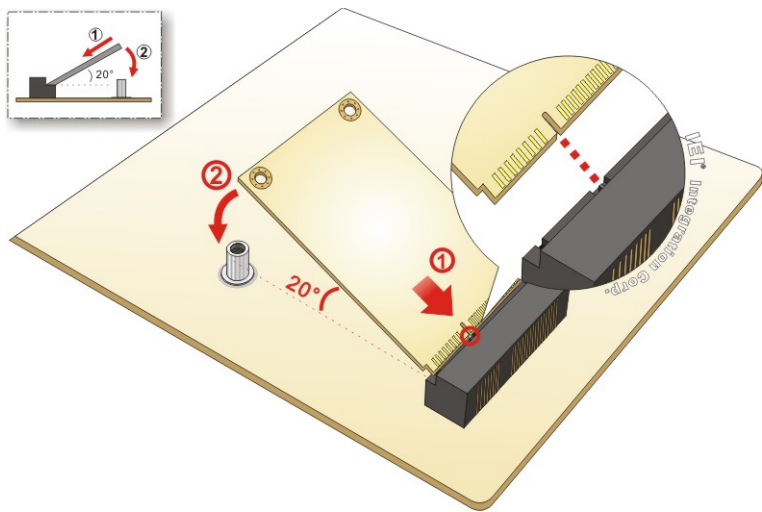

Figure 3-12: Inserting the PCIe Mini Module into the Slot at an Angle
Step 4: Insert into the socket at an angle. Line up the notch on the card with the notch on the slot. Slide the PCIe Mini module into the socket at an angle of about 20° (**Figure 3-12**).